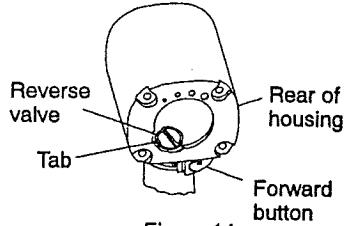

Figure 14
**NOTICE:** If the orientation of the Reverse Valve is not correct (tab facing the rear of the Housing), the Trigger (33) and the Forward and Reverse Buttons (39) and (40) cannot be installed.
4. Install the Trigger O-ring (34) on the Trigger. Insert the Trigger Assembly in the front of the Housing.
6. Look through the Housing from the rear. If the tab on the Reverse Valve has been rotated to the left, install the right Button in the Housing. When one Button has been installed, push the Button in. This will rotate the Reverse Valve so that the other Button can be installed. See Figure 14.